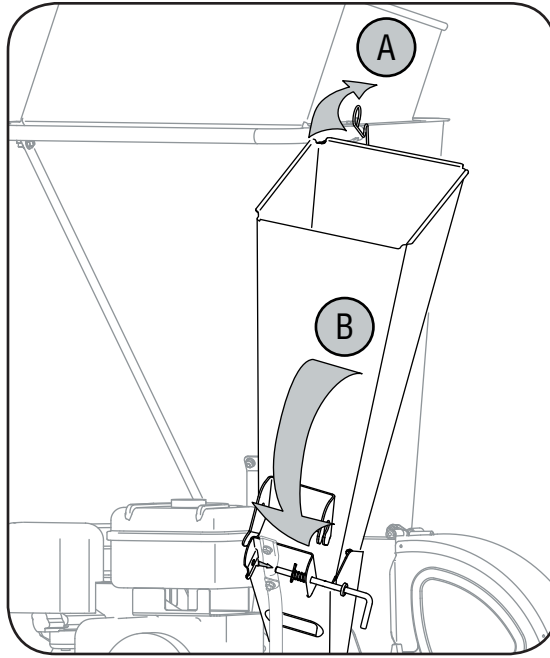

Figure 1
- b. Gently pivot the chipper chute down until it clicks into the lock rod. See Figure 1.